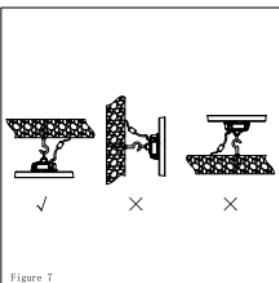

Figure 7
7. Pay attention do not install at wrong direction. (fig.7)